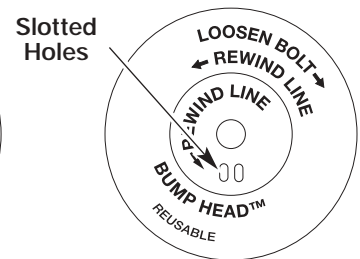

Fig. 54
**NOTE:** SplitLine™ can only be used with the inner reel with the slotted holes. Single line can be used on either type of inner reel. Use Figure 54 to identify the inner reel you have.